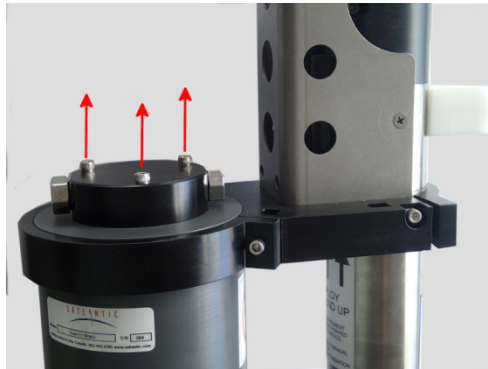

Figure 1
3. Using a 5/32" hex driver, remove the three screws that retain the SeaFET's wet cap/flow cell (Figure 1). The wet cap filling (artificial seawater) will spill.